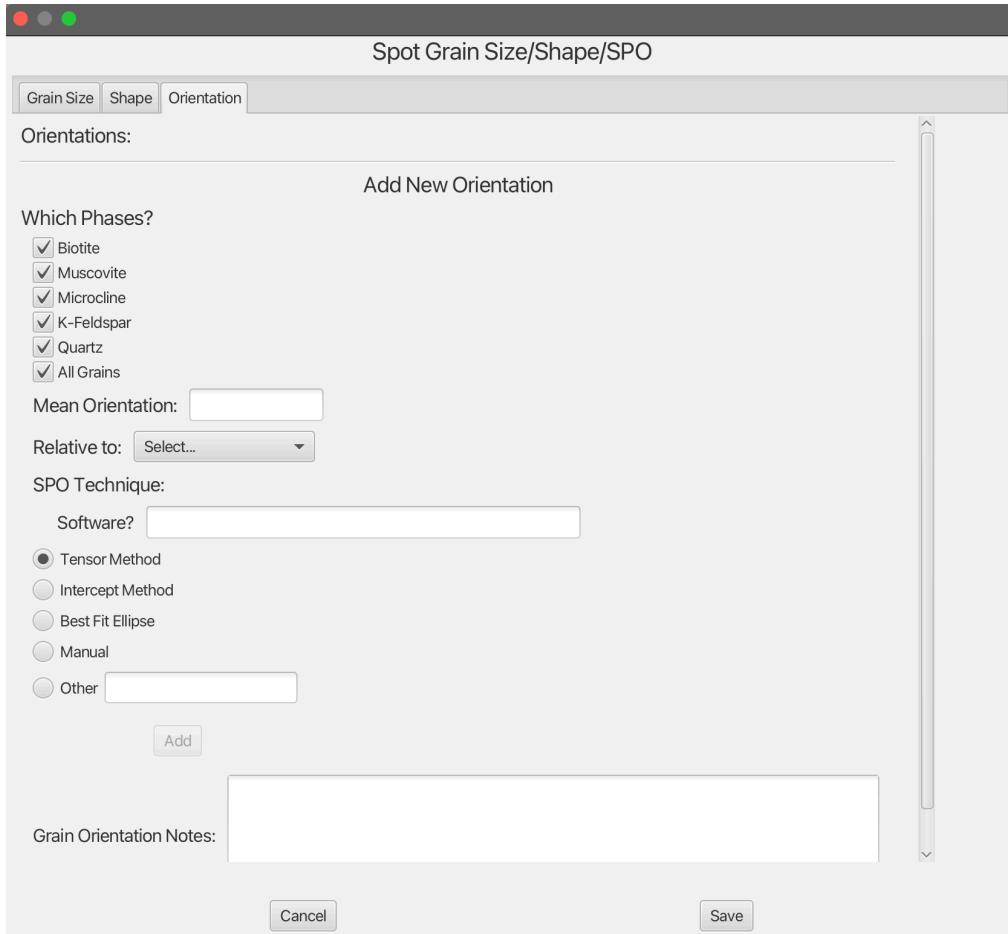

Figure 28: Shape Preferred Orientation (SPO) modal for documenting alignment of grains.
- **Shape Preferred Orientation (SPO):** Add SPO information to describe directional alignments. (See Figure 28.)